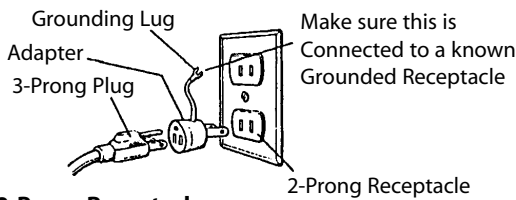

Figure 4 – 2-Prong Receptacle
- A temporary 3-prong to 2-prong grounding adapter (See Figure 4) is available for connecting plugs to a two pole outlet if it is properly grounded.